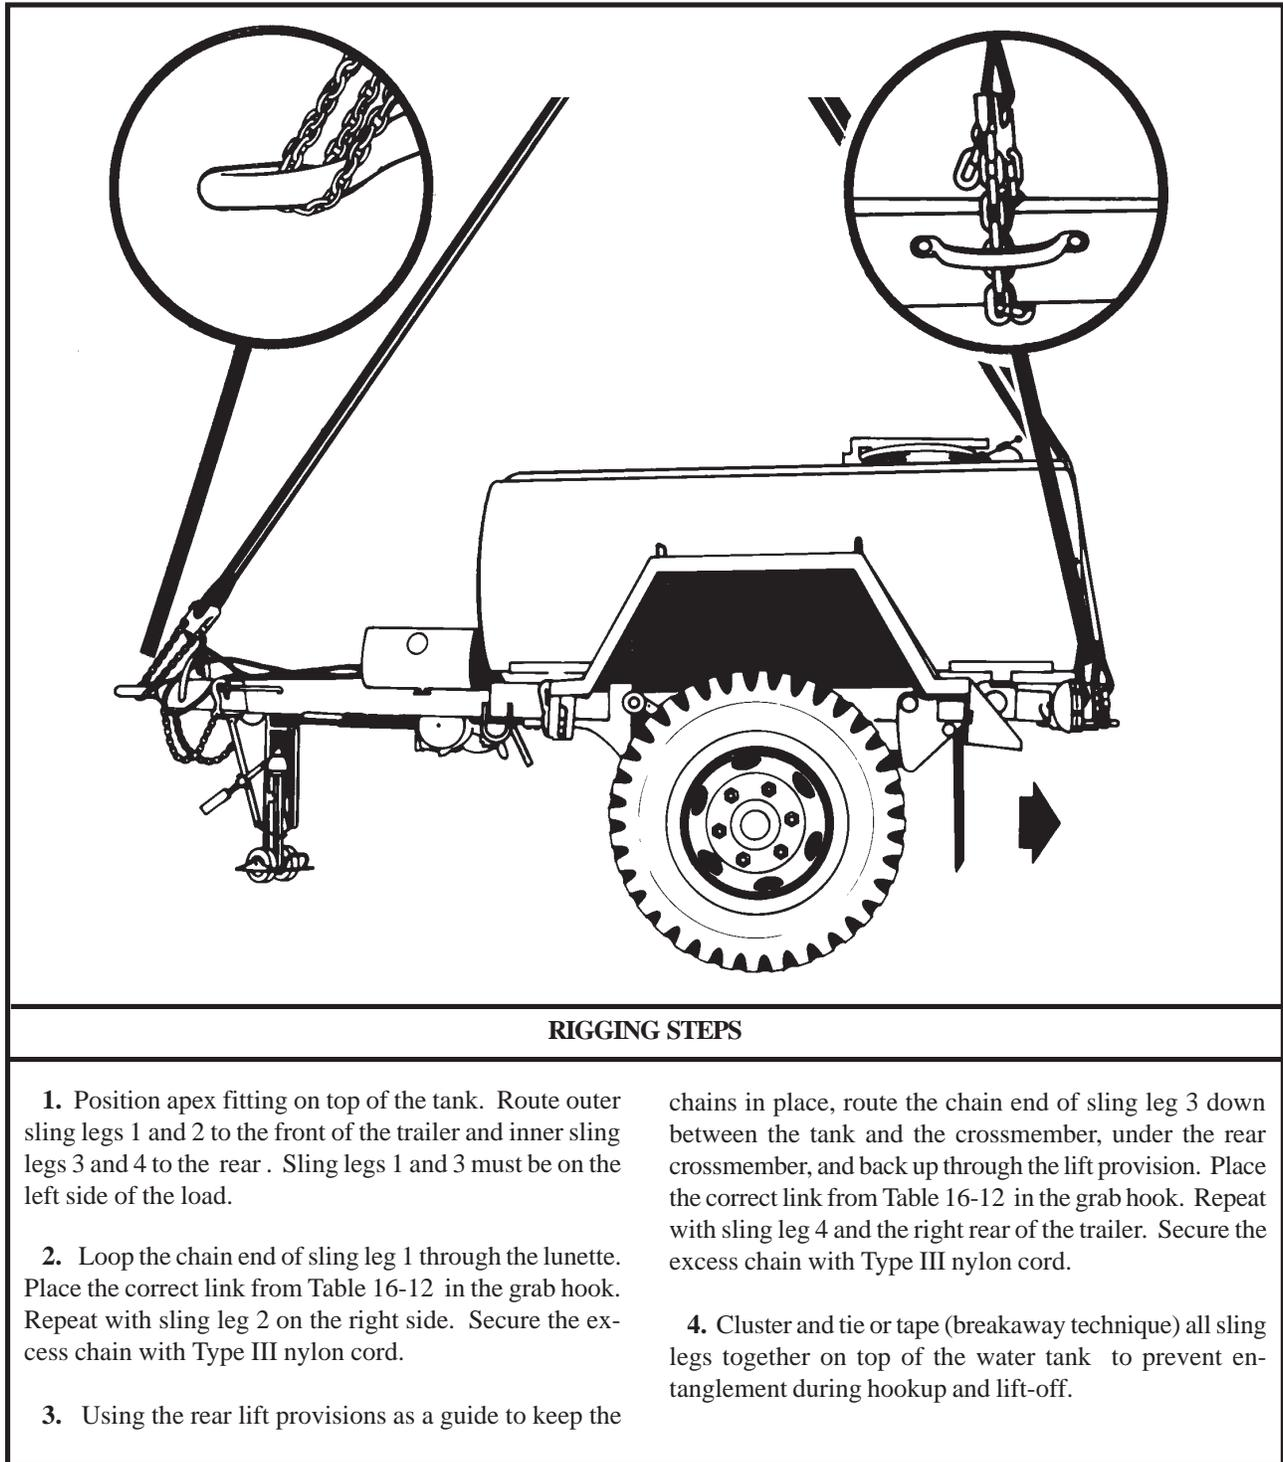

Figure 16-12. M149 Series Water Trailers
(2) **Rigging.** Rig the load according to the steps in Figure 16-12.
(4) **Derigging.** Derigging is the reverse of the preparation and rigging procedures in steps d (1) and d (2).